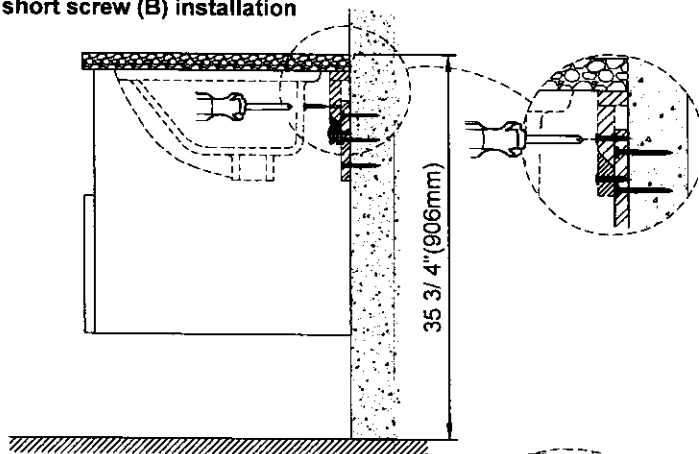

Figure 5
- Drive short screws (B) through the two holes located on the vanity hanging rail. See Figure 5.